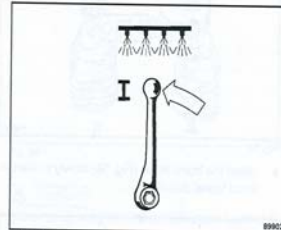

Fig. 37
- Switch the cock valve to position "I" (Fig. 37). The gravity sprinkler system is switched on.